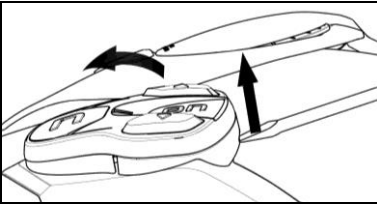

Fig. 28
- Remove the keypad from the shell, as indicated in Fig. 28.